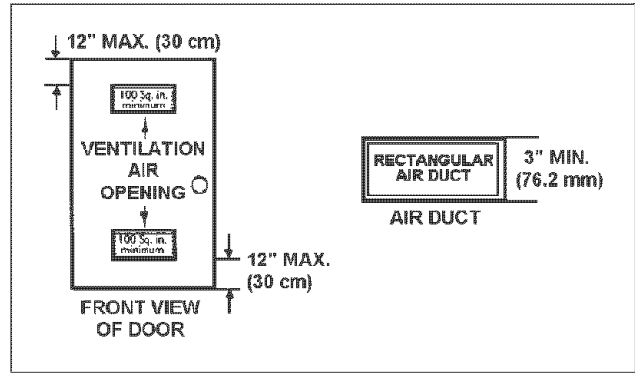
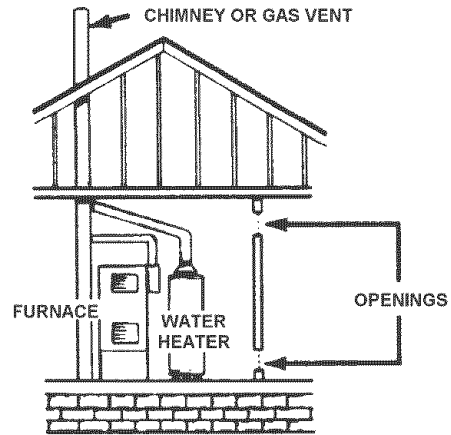

FIGURE 9.
FIGURE 10.
A gas water heater cannot operate properly without the correct amount of air for combustion, see Figure 9. Do not install in a confined area such as a closet, unless you provide air as shown in the *Locating The New Water Heater* section. Never obstruct the flow of ventilation air. If you have any doubts or questions at all, call your gas supplier. Failure to provide the proper amount of combustion air can result in a fire or explosion and cause death, serious bodily injury, or property damage.
(See Figure 9 on page 9 and Figure 10 below)
B. ALL AIR FROM OUTDOORS: (See Figures 9, 11, 12 and 13)